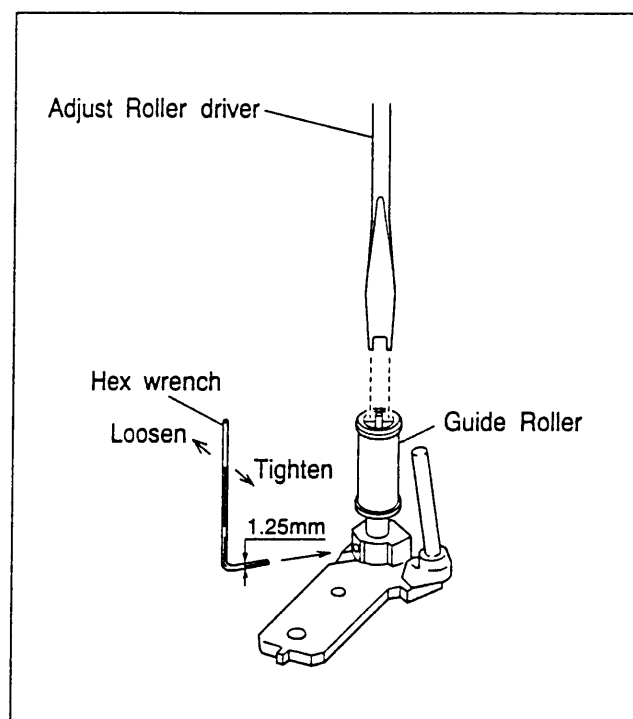
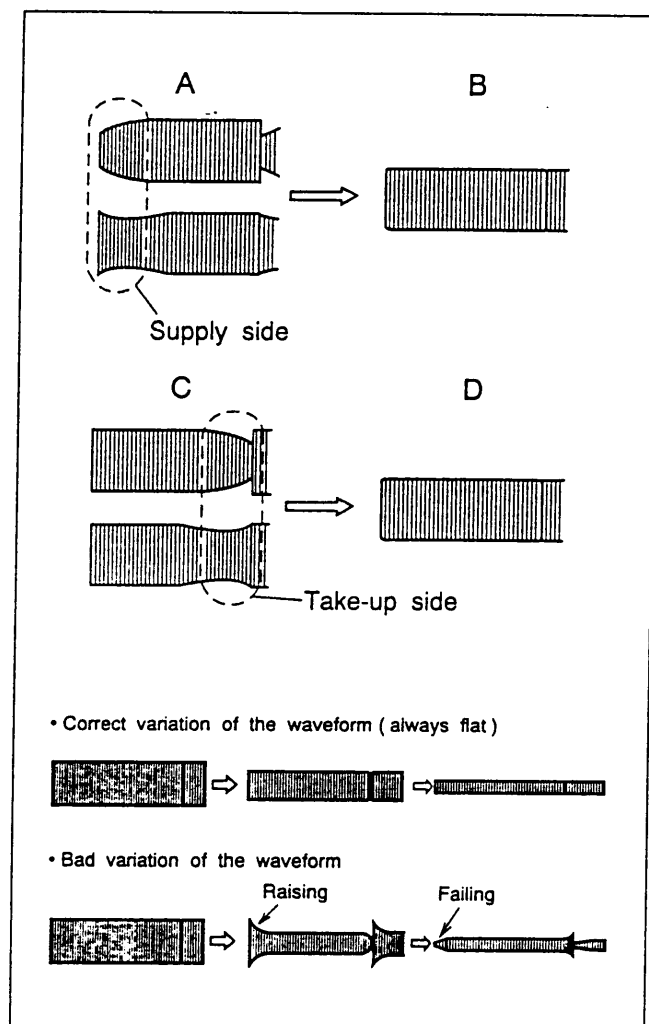
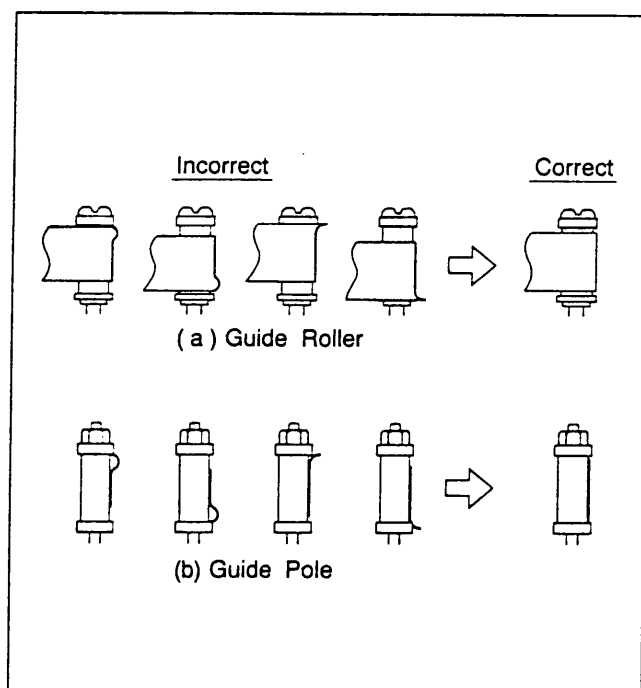

Fig. 2-7-2
Fig. 2-7-3
Fig. 2-7-4
- (6) When the FM waveform does not remain flat during this process,first slightly loosen the set screw located at the bottom of the guide roller.Using the supply and take-up guide rollers (refer to Fig.2-7-2) to obtain the correct waveform as indicated in Fig.2-7-3.
- (7) By pressing the TV PROG buttons several times,vary the FM waveform output from maximum to minimum (and vice versa) gradually,and confirm that the variation proceeds in flat shape, as shown in Fig.2-7-3.
- (8) Next playback the LP stairstep portion of the alignment tape [MHPE-L] and adjust the tracking control from maximum to minimum the FM waveform,confirm that FM waveform variation is always flat.
- (9) Record the signal and play it back in both of the SP and LP mode,confirm that the FM waveform is flat in both mode.
- (10) After adjustments,tighten the set screw of the guide rollers.
- (11) Confirm that the tape wrinkling does not occur at the roller upper or lower limits as indicated in Fig.2-7-4.